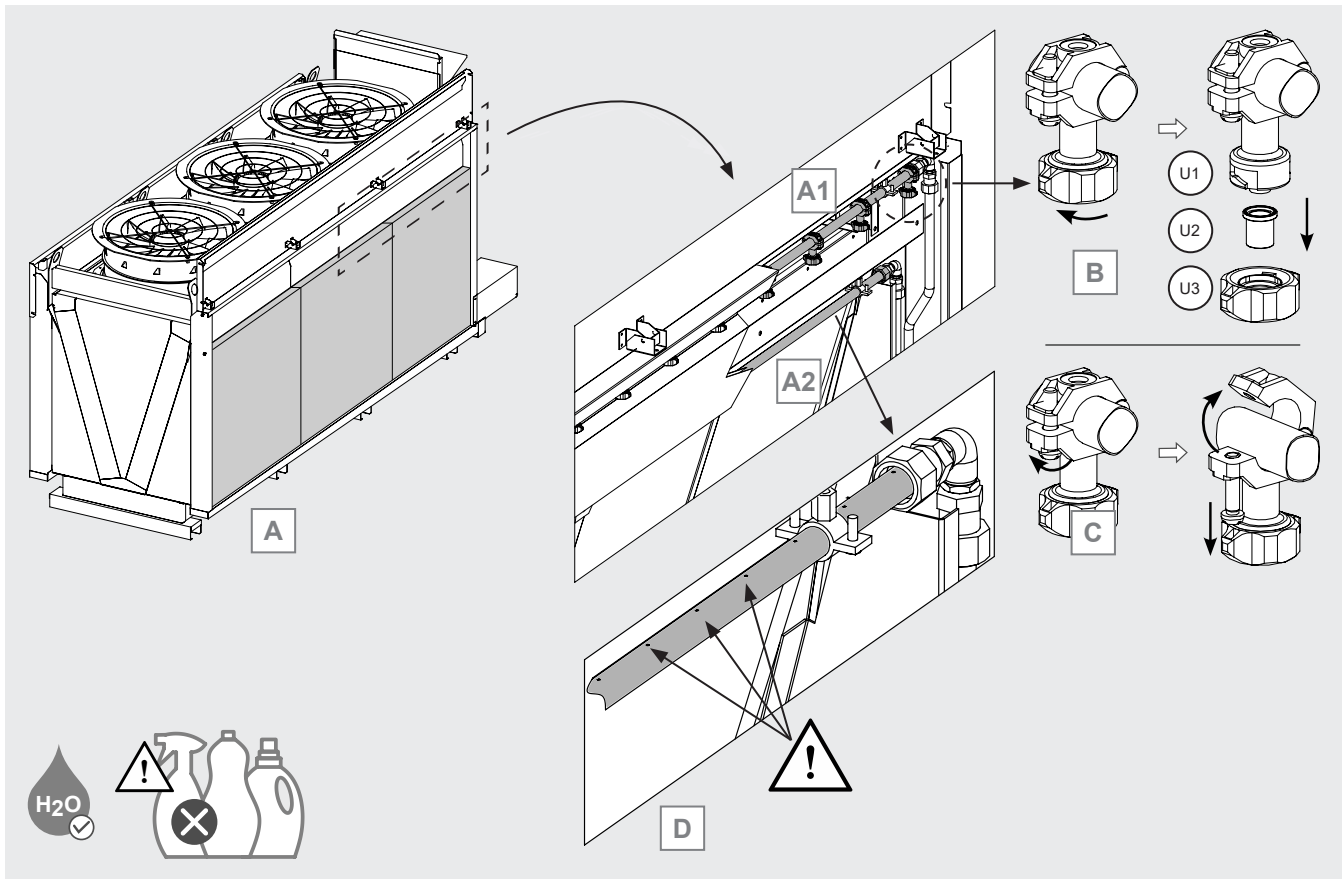

Figure 22
- 12.10.5 Locate the water distribution lines of the adiabatic system. Observe Figure 22 A: line (A1), by means of a row of nozzles, distributes water to the outer panel. Line (A2), by means of a perforated pipe, distributes water to the inner panel.
- 12.10.6 Observe Figure 22 B. Each nozzle in line (A1) consists of three parts: no. 1 nozzle body (U1), no. 1 nozzle (U2) which determines the type of jet and water flow rate, no. 1 nut (U3) which holds the nozzle in place.
- 12.10.7 See Figure 22 B. In the case of clogged nozzles, it is possible to replace the nozzle without changing the whole nozzle: unscrew the nut and remove the nozzle. There are 3 types of nozzles corresponding to 3 different performances: each is marked by a colour, lilac, black and orange. Replace the nozzles with new ones of the same brand and colour. If in doubt, contact Modine.
- 12.10.8 Observe Figure 22 C. In the case of damaged nozzles, unscrew the screw and open the quick coupling. Remove the nozzle. If the nozzle is damaged, replace it completely, including the nozzle.
12.10.10 Observe Figure 22 D. Check that all holes in the distribution pipe (A2) are perfectly clear. Remove any lime residue with a damp cloth. Do not use detergents or aggressive substances.